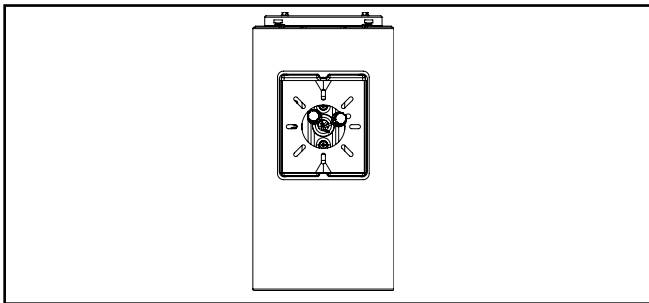

Figure 1.
1. Install wall mounting plate to splice box using splice box hardware (provided by others) and tighten to 17 IN/LBS torque when using 8-32 screw (Figure 1.).